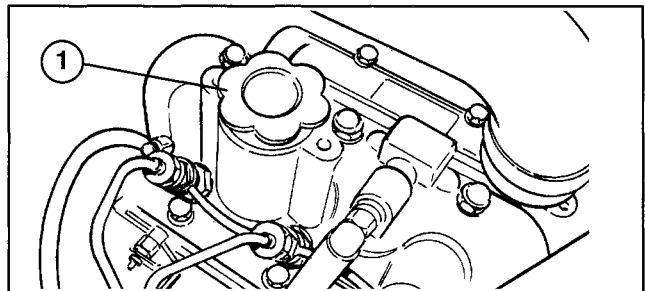

Figure 24
3. If oil level is low, remove oil fill cap (Fig. 24) and gradually add small quantities of oil, checking level frequently, until level reaches FULL mark on dipstick.